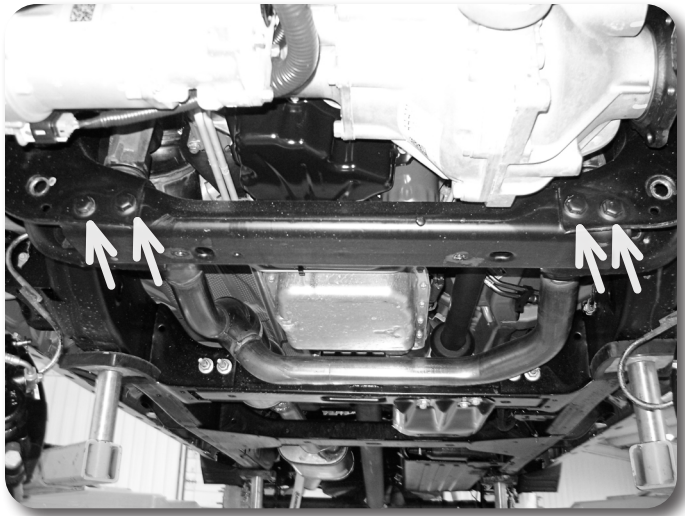

Figure 12
23. Remove the factory rear crossmember from the vehicle by removing the 4 bolts. **Figure 12.** Crossmember and hardware will not be reused.